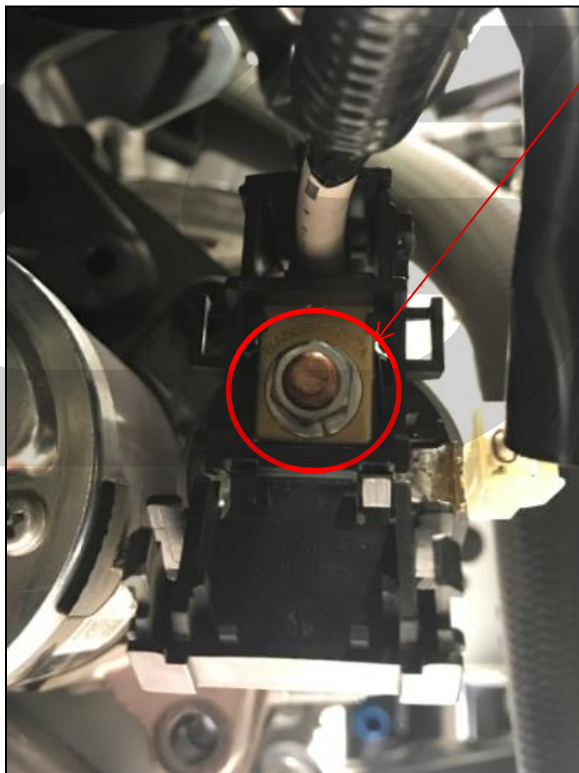

Figure 4c
- d) Use a 12mm socket to remove the power wire nut **circle in red in Figure 4c**. Remove the power wire from the starter.